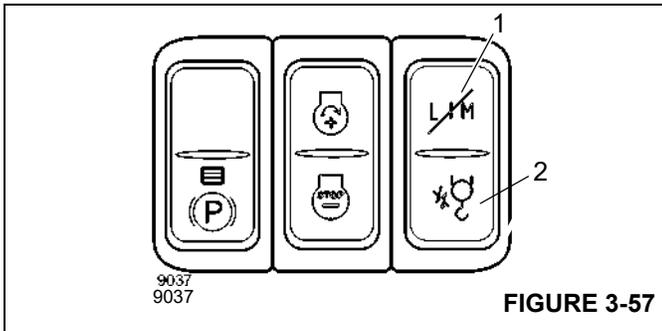

FIGURE 3-57
Switch (1), (Figure 3-57) for overriding the following lockouts:
Switch (2), (Figure 3-57) for overriding the following lockouts: